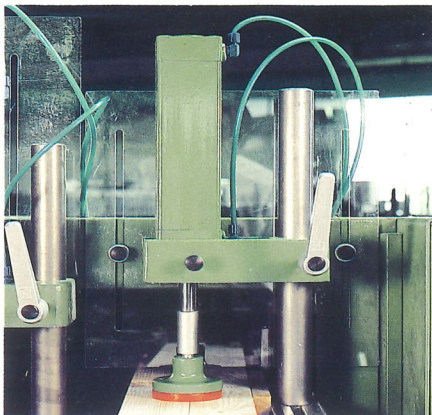

Fig 5
- Pneumatic clamp capable of holding multiple components at once on each table — Fig 5